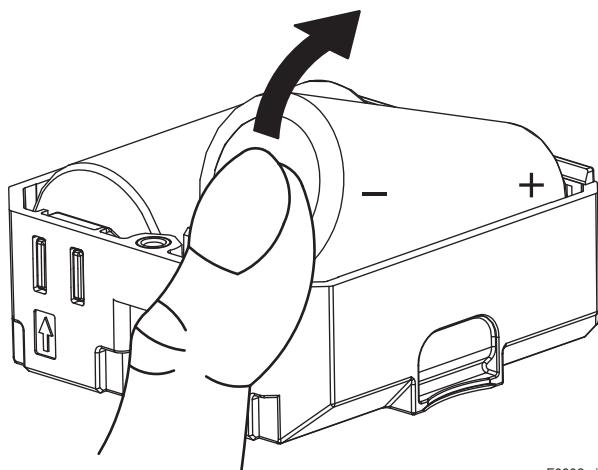

Figure 8.2 Remove Batteries
2. Remove old batteries. Remove the battery by pushing up the negative side of the battery as shown in Figure 8.2.